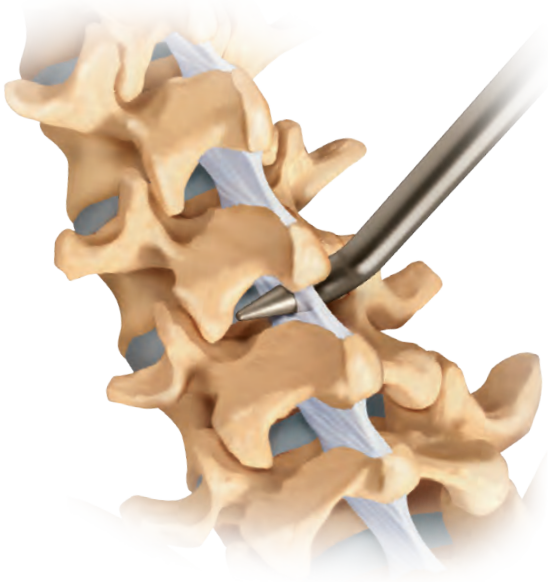

Figure 3
- If the interspinous ligament has been left intact, insert the initial dilator (attaches to the quick connect handle [gray]) and puncture the interspinous ligament, placing it as far anterior as possible (**Figure 3**).